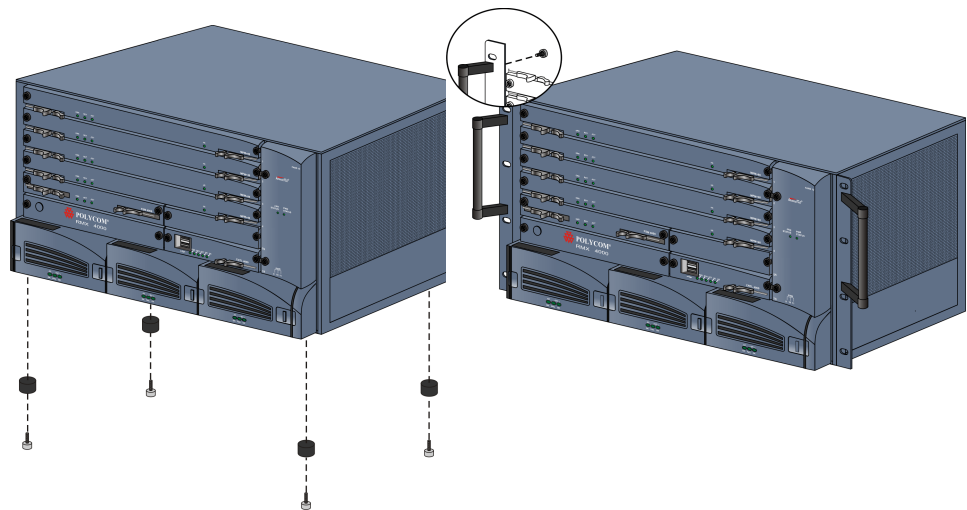

Figure 1-1 Optional - Feet and handle removal
- Optional - Depending on the rack installed in your site, you may need to remove the handles if they are attached to the RMX 4000. Unscrew the handles from the chassis as shown in Figure 1-1, "Optional - Feet and handle removal".
- Optional - If the opening in the rack that is allocated to the RMX 4000 is exactly 6U, the feet must be removed from the RMX 4000 to install it in the rack. Unscrew the feet from the chassis as shown in Figure 1-1, "Optional - Feet and handle removal".